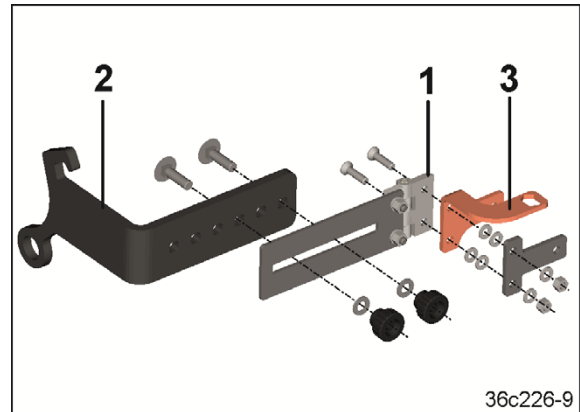

Fig. 95
3. Bolt the middle part (Fig. 95/1) with the top link bracket (Fig. 95/2) and section (Fig. 95/3).